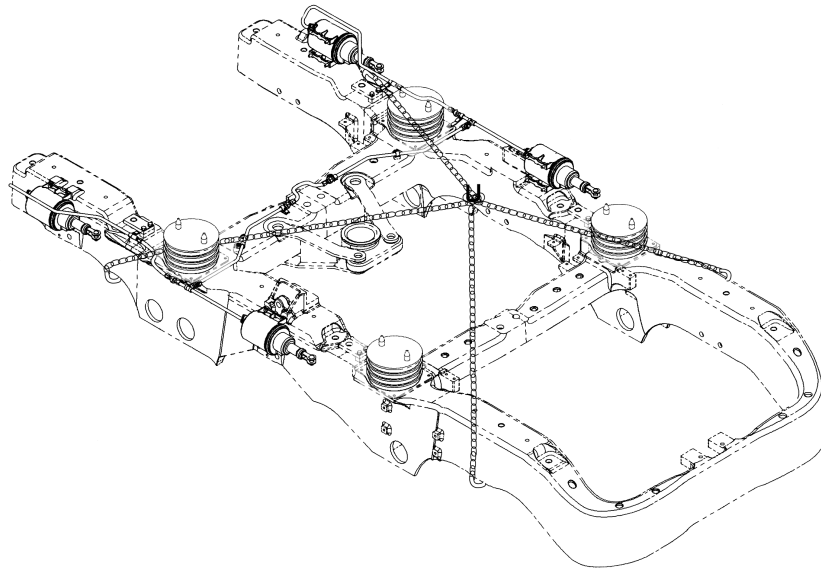

Figure 55 – Bogie Lifting Connections
10. Position, prop up and block all axle traction rods in preparation for the lowering of the bogie frame. Pick up the bogie frame (as per Figure 55) as assembled up to item #5 above, and lower it slowly onto the bearing adapter spring combinations, making sure that the bogie is oriented properly.
This assembly assumes that three traction motor/wheel-axle-gear assemblies are available. Position the three motor wheelset combos in line and spaced properly for lowering the bogie assembly. The capability for adjusting the motor vertically but rotating about the wheelset axle while the bogie assembly is being lowered onto the combos, will be required. Begin with each of the motor assemblies at a high angle. Lift the bogie assembly connected as shown on Figure 55. Lower the bogie frame onto the three traction motor combos slowly. As the bogie frame lug passes the motor's upper secondary support lug, begin lowering the traction motor simultaneously, or alternate lowering the bogie assembly and motor. Ensure that the motor nose link (with upper end already attached to bogie frame) becomes properly positioned, and that the bearing adapters are fully and properly seated on each of the journal bearings.